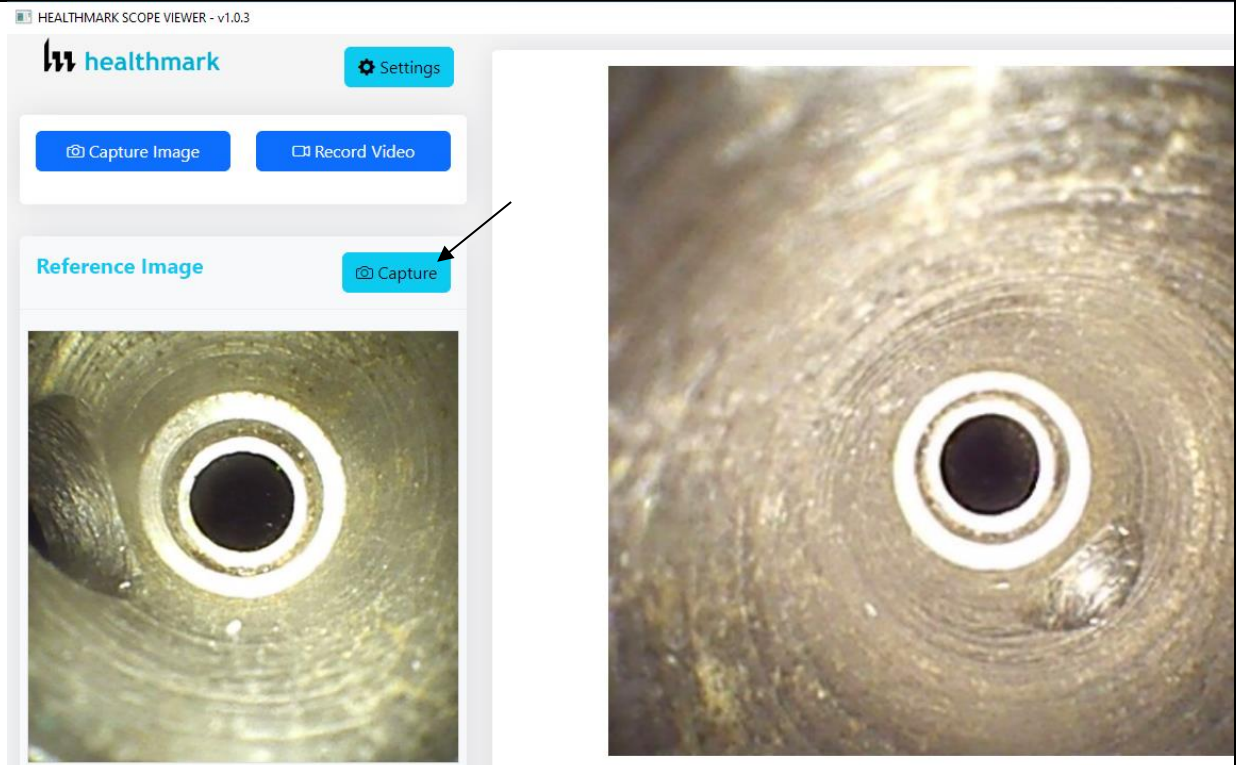

Figure 9
1. To display an image currently being displayed in the *Main Image Window*, click the *Capture* button. (Note: The images will be saved in a file folder titled **Reference Images** in the designated *File Location* specified in the **File Location** field. (Fig. 9).